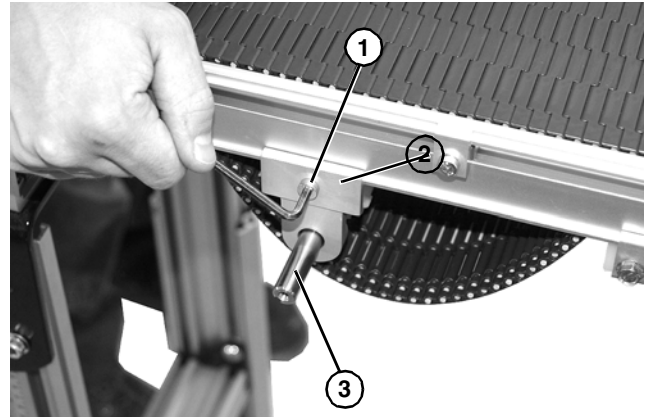

Figure 39
2. Loosen and remove screw (Figure 39, item 1) and bearing housing (Figure 39, item 2) and remove drive pulley (Figure 39, item 3).